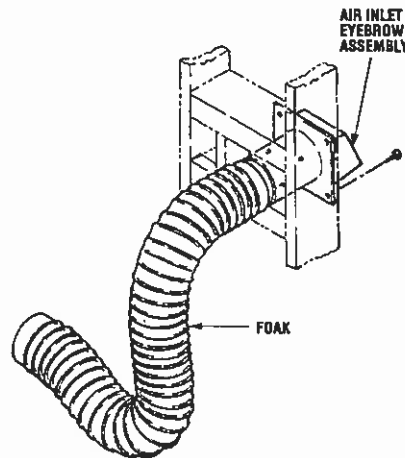

Figure 40
Step 2. Install the air inlet eyebrow (FOAK-4 or FOAK-4LD) through the wall opening (Figure 40). Push a 4 inch diameter NON-COMBUSTIBLE Class 0 or Class I flexible duct onto the eyebrow.